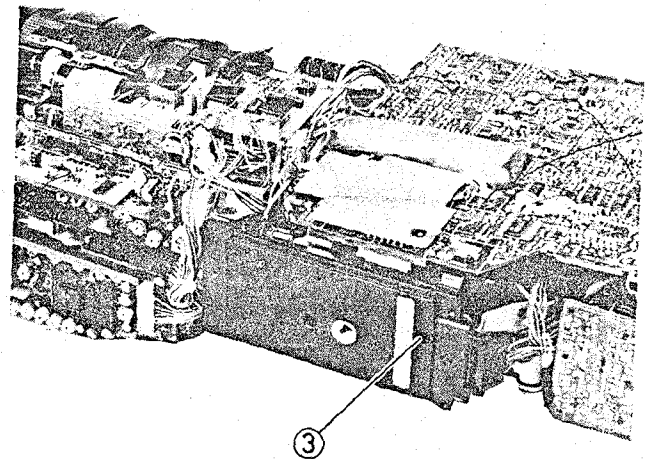

Fig. 2-62 Supply End Sensor Removal
3. Remove two (2) screws holding the camera section and VTR section. (See Figs. 2-62, 2-63)